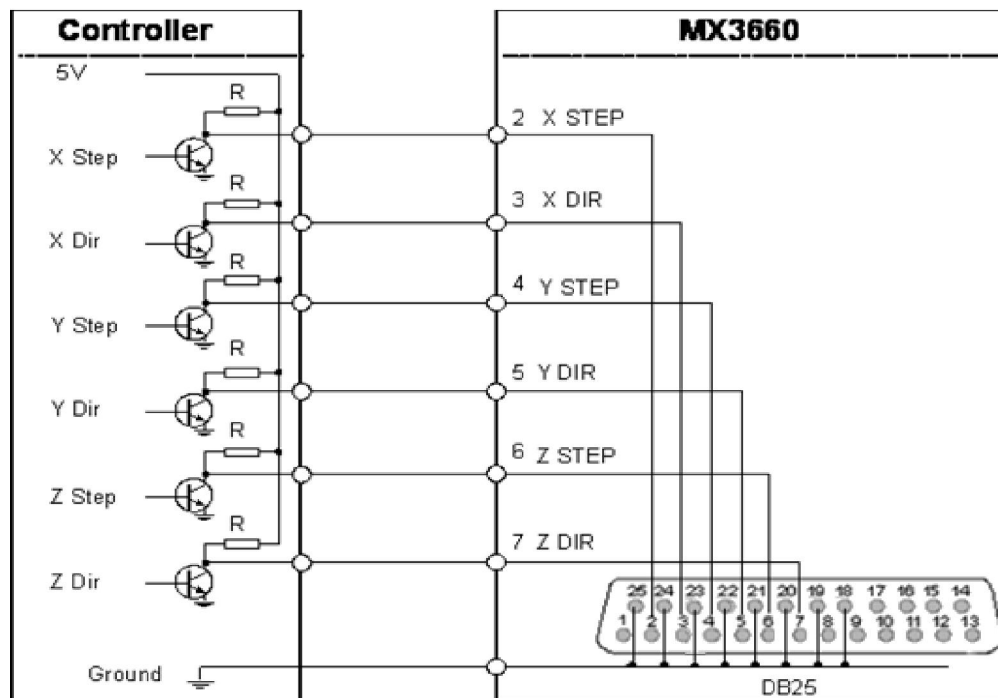

Figure 13 Connecting the step & direction signals of a controller to the MX3660
*The step and direction pin connections are required.* Step signals are sent to MX3660 via pin 2, 4, 6 of the DB25 connector. Direction signals are sent to MX3660 via pin 3, 5, 7. Refer to Figure 13.